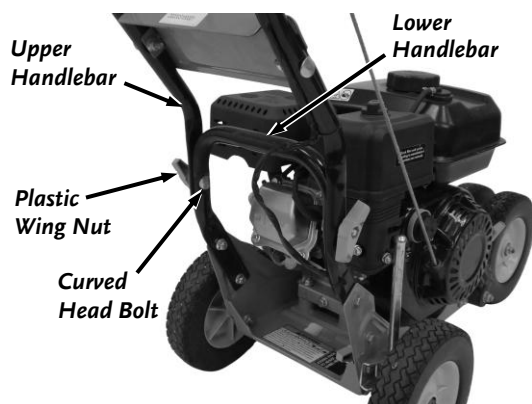

Figure 3
1. Assemble the Upper Handlebar to the Lower Handlebar with two Curved Head Bolts and two Plastic Wing Nuts (**Figure 3**). Firmly hand-tighten the Wing Nuts.